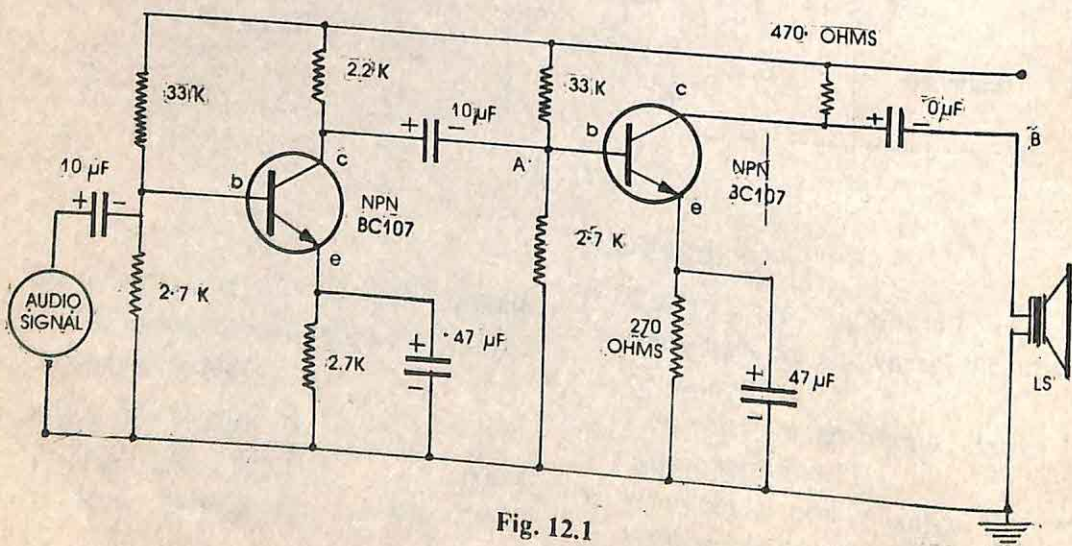

Fig. 12.1
- Make the circuit as shown in Fig. 12.1.